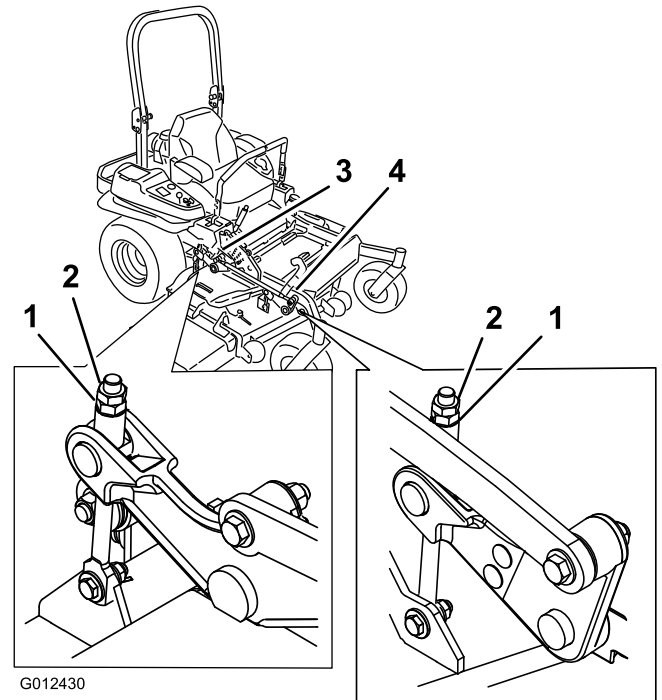

Figure 87
10. Fine-tune the adjustment nut on the front deck lift assembly by turning it (Figure 87).
16. Fine-tune the adjustment nut on the front deck lift assembly by turning it (Figure 87).